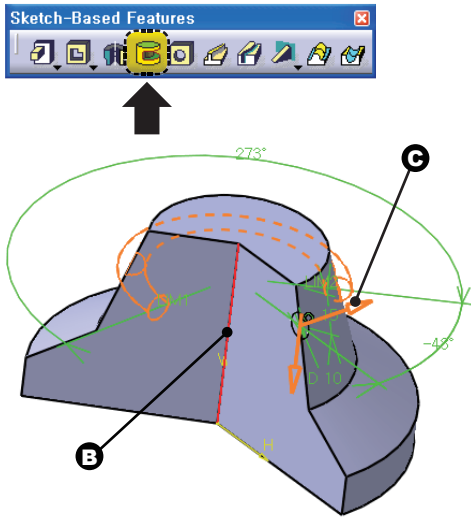

Fig 6-7 Selecting Sketch and Axis
3. Select the axis of revolution (**B** in Fig 6-7).